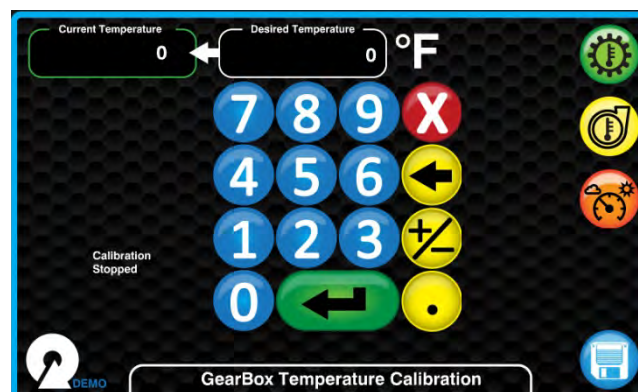

Figure 154. Temperature Calibration Screen (Pump Shown)
- D. Select temperature location as follows. See Figure 154.